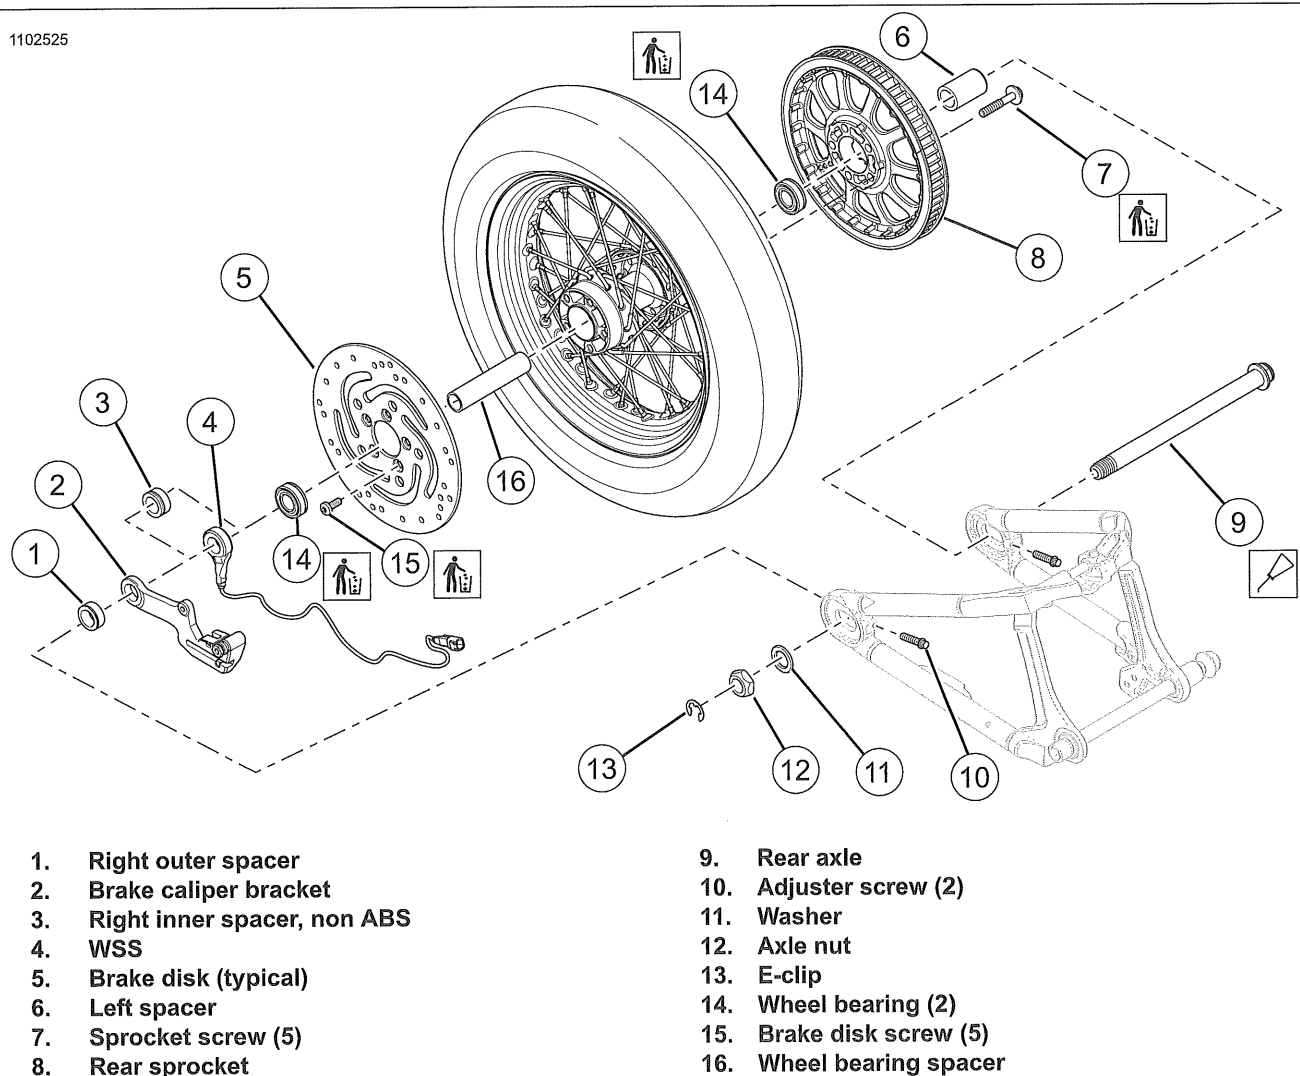

Figure 3-7. Rear Wheel
1. See Figure 3-7. Remove rear wheel.
- a. Remove E-clip (13).
- b. Loosen axle nut (12) using axle nut torque adapter. Special Tool: AXLE NUT TORQUE ADAPTER (HD-47925)
- c. Loosen axle adjuster screws (10) and slide rear wheel forward.
- d. Remove axle nut and washer (11).
- e. Support brake caliper bracket (2).
- f. Remove rear axle (9), right outer spacer (1), right inner spacer (3) or wheel speed sensor (4) and left spacer (6).
- g. Remove drive belt from rear sprocket (8).
1. See Figure 3-7. Install rear wheel.
- a. Apply a light coat of anti-seize lubricant to rear axle (9), wheel bearing bores, and bore of wheel bearing spacer (16).
6. See Figure 3-7. Tighten rear axle nut.
1. See Figure 3-7. Remove rear brake disc.
- a. Discard brake disk screws (15).
- b. Remove rear brake disc (5).
- a. Discard rear sprocket screws (7)
- b. Remove rear sprocket (8).
3. Install wheel bearing spacer (16), if removed.
4. See Figure 3-7. Install **new** sealed wheel bearings (14), if removed. See SEALED WHEEL BEARINGS (Page 3-25).